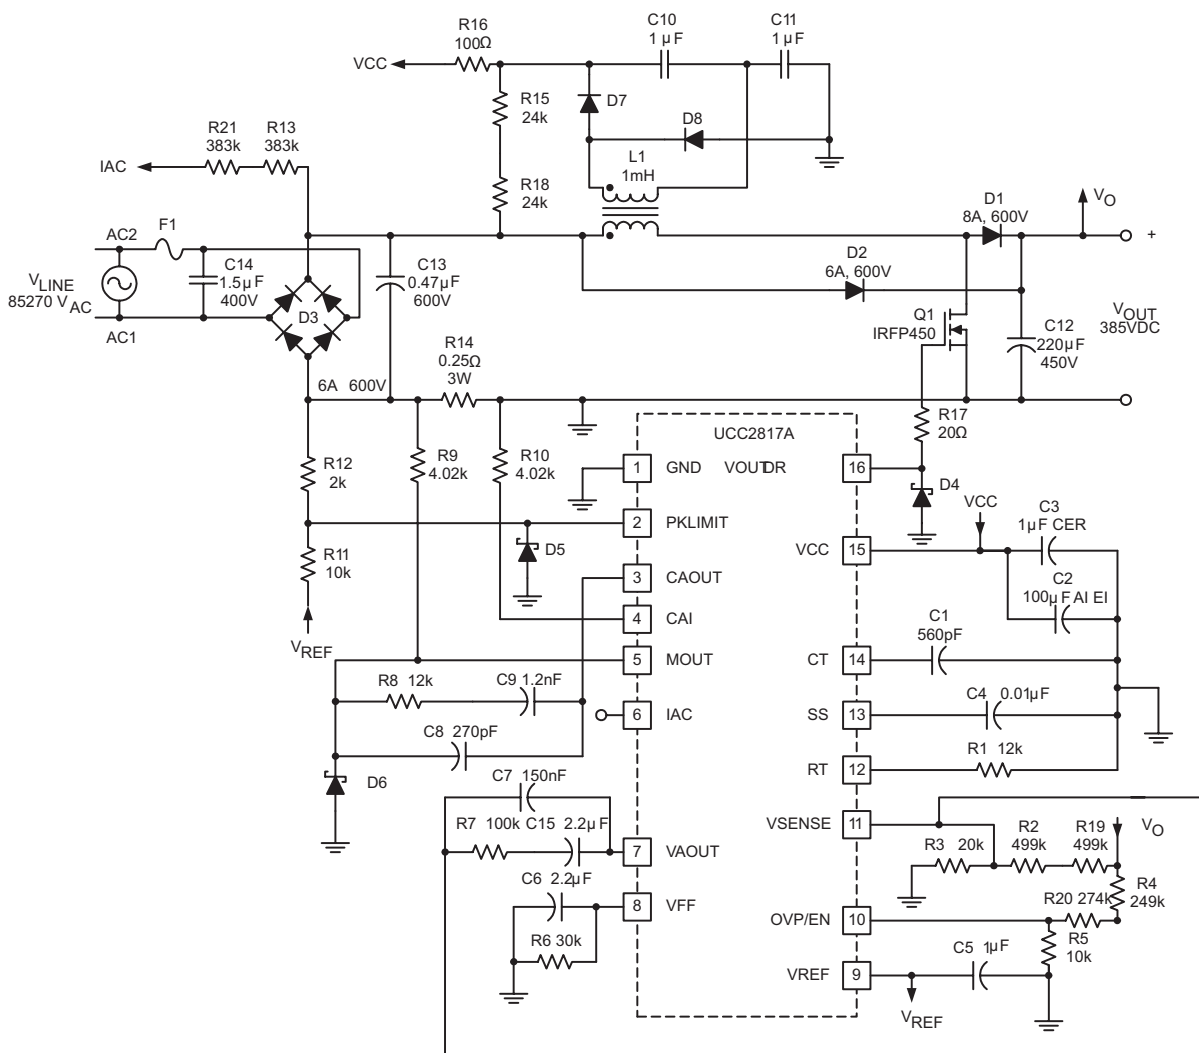

Figure 1. Typical Application Circuit
The UCC2818A is a BiCMOS average current mode boost controller for high-power-factor high-efficiency preregulator power supplies. Figure 1 shows the UCC2818A in a 250-W PFC preregulator circuit. Off-line switching power converters normally have an input current that is not sinusoidal. The input current waveform has a high harmonic content because current is drawn in pulses at the peaks of the input voltage waveform. An active power-factor correction circuit programs the input current to follow the line voltage, forcing the converter to look like a resistive load to the line. A resistive load has 0° phase displacement between the current and voltage waveforms. Power factor (PF) can be defined in terms of the phase angle between two sinusoidal waveforms of the same frequency:
The UCC2818 version of the device is intended to have V_{CC} connected to a 12-V supply voltage. The UCC2817A has an internal shunt regulator enabling the device to be powered from bootstrap circuitry, as shown in the typical application circuit of Figure 1. The current drawn by the UCC2818A during undervoltage lockout, or start-up current, is typically 150 μA. Once V_{CC} is above the UVLO threshold, the device is enabled and draws 4 mA typically. A resistor connected between the rectified ac line voltage and the V_{CC} pin provides current to the shunt regulator during power up. Once the circuit is operational, the bootstrap winding of the inductor provides the V_{CC} voltage. Sizing of the start-up resistor is determined by the start-up time requirement of the system design.